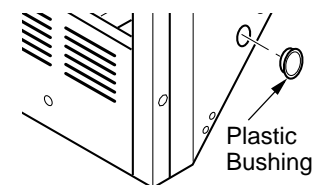

Figure 4 - Installing Plastic Bushing for Power Cord
- a. **If your firebox is installed as a freestanding unit,** determine whether the power cord will exit the left side or the right side of the firebox. Install 1 plastic bushing provided into the 1 1/2" hole in the floor support on the exit side. Install the second plastic bushing provided into the 1 1/2" hole in the outer casing through which the power cord will exit (see Figure 4). Route power cord through both plastic bushings and plug the power cord into a 3-prong grounded wall receptacle near the firebox.